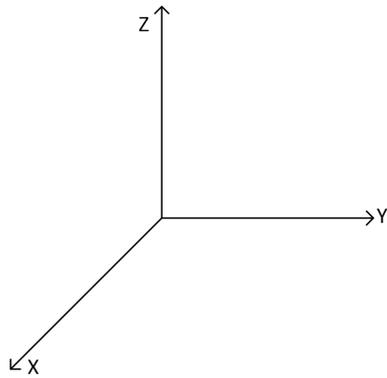
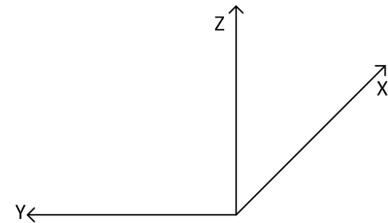
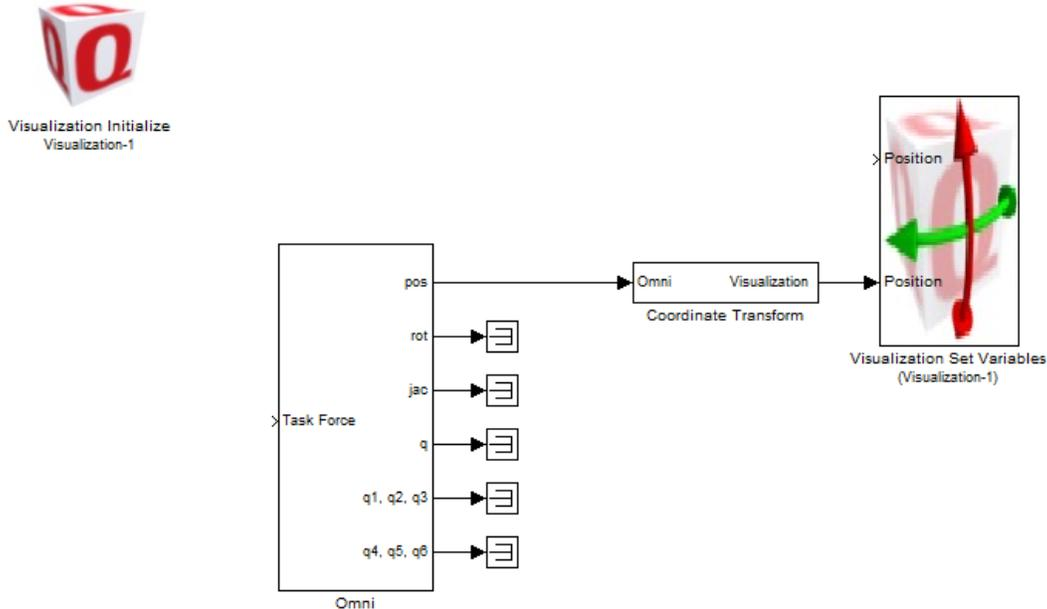

Figure 10.5: Omni coordinate frame
Figure 10.6: Visualization coordinate frame
Figure 10.7: Avatar coordinate transformation
5. Recall from Section 3.1.1, the global coordinate frame defined by our D-H parameters is given by Figure 10.5. The coordinate frame used by the QUARC Visualization is shown in Figure 10.6.
- Make a subsystem block that converts the position output of the Omni in the coordinate frame shown in Figure 10.5, to the position of the avatar in the coordinate frame shown in Figure 10.6. To do this, simply add a gain block to reverse the appropriate axes and scale the output to the visualization by a factor of $\times 10$. Call this block **Coordinate Transform**. Your model should resemble Figure 10.7.